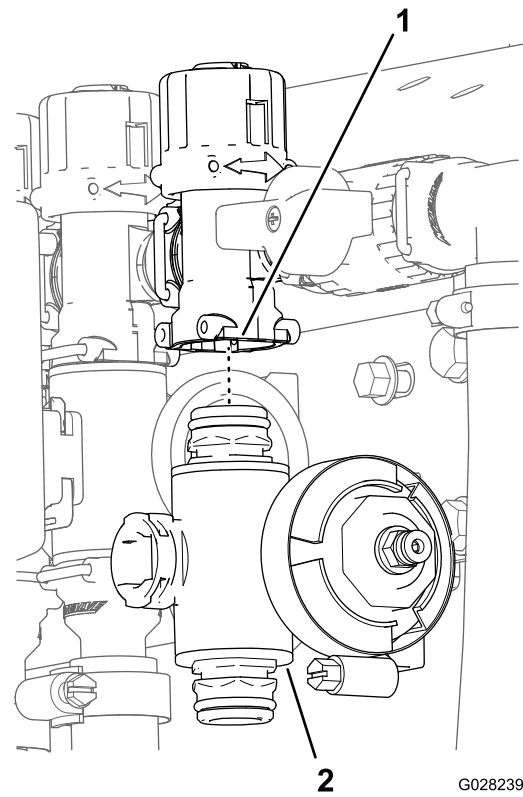

Figure 116
3. Remove the section valve manifold from the machine (Figure 116).